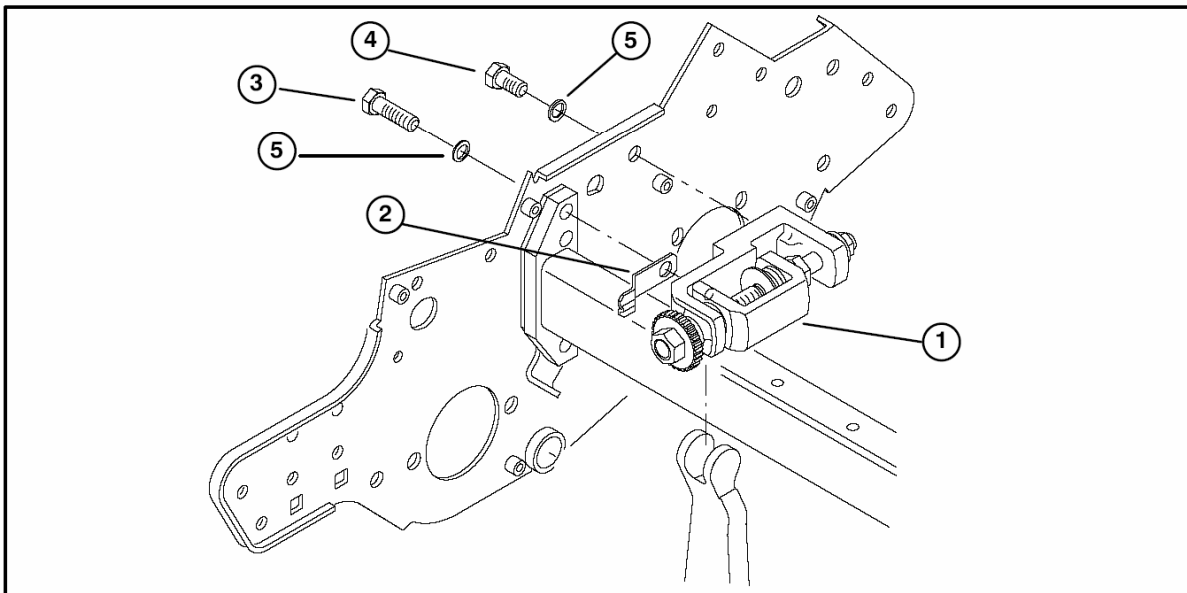

Figure 2
1. Install new bedbar adjuster and spring detent to each sideplate with a 3/8-16 x 1" lg. capscrew and lockwasher and a 3/8-16 x 3/4" lg. capscrew and lockwasher (Fig. 2).